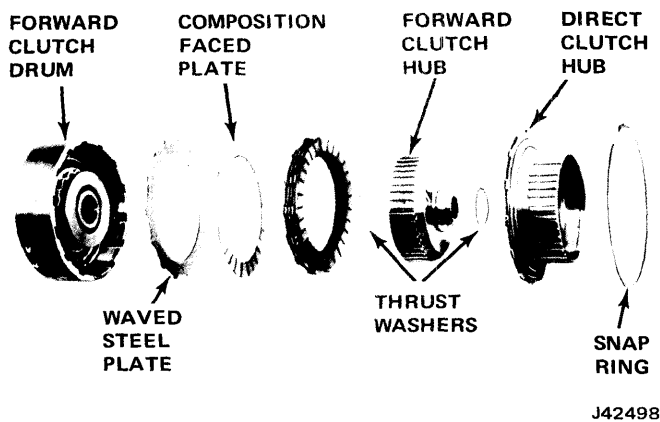

Fig. 7-74 Forward Clutch Assembly
(9) Install four composition-faced, three flat steel, and one waved steel clutch plate (plate with U-notches) in clutch housing. Install waved steel plate first, then alternately install composition-faced plates and flat steel plates (fig. 7-74 and 7-75).